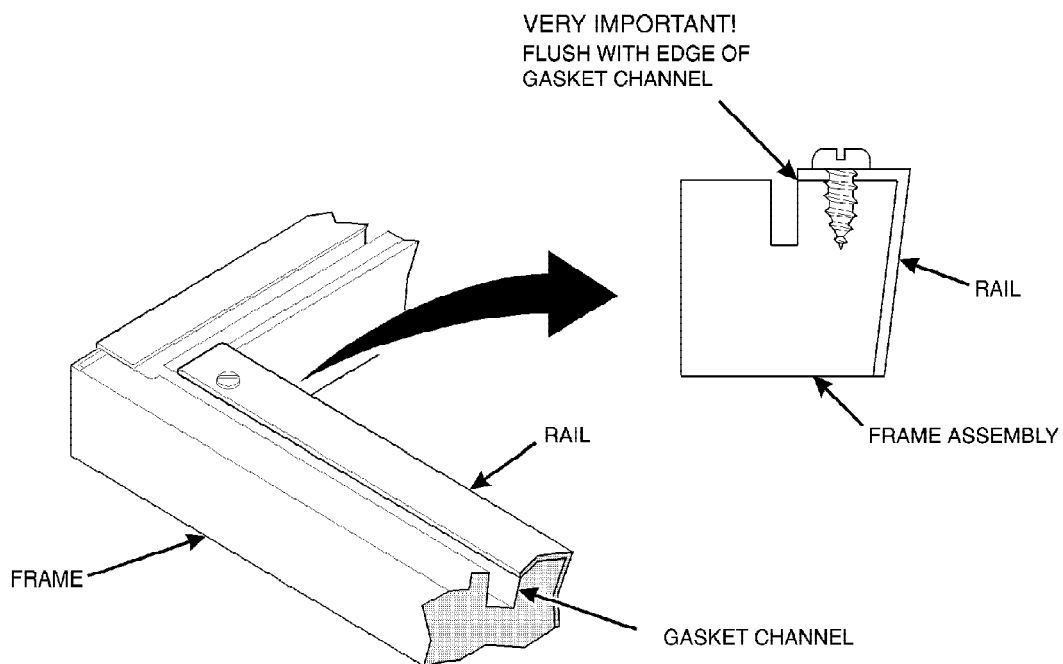

Figure 3
2. See figure 3. Remove the gasket from the channel at the bottom of the lower delivery door.